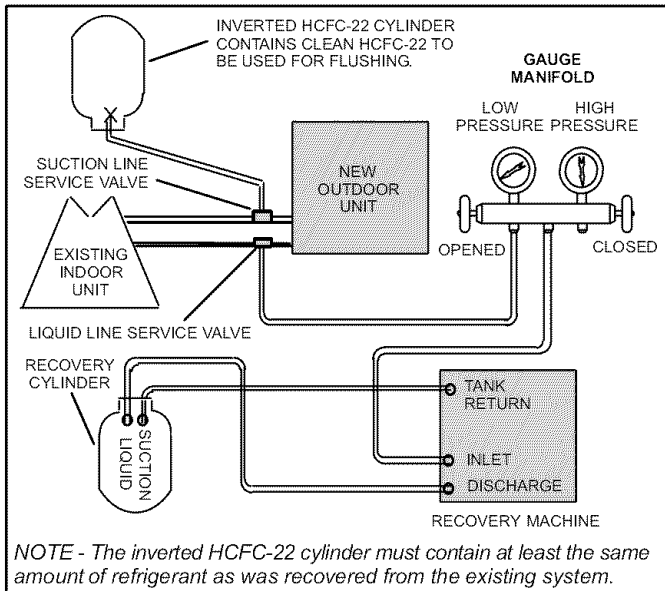

Figure 22. Typical Flushing Connection
2. Connect an HCFC-22 cylinder with clean refrigerant to the vapor service valve. Connect the HCFC-22 gauge set to the liquid line valve. Connect a recovery machine with an empty recovery tank to the gauge set as illustrated in figure 22.